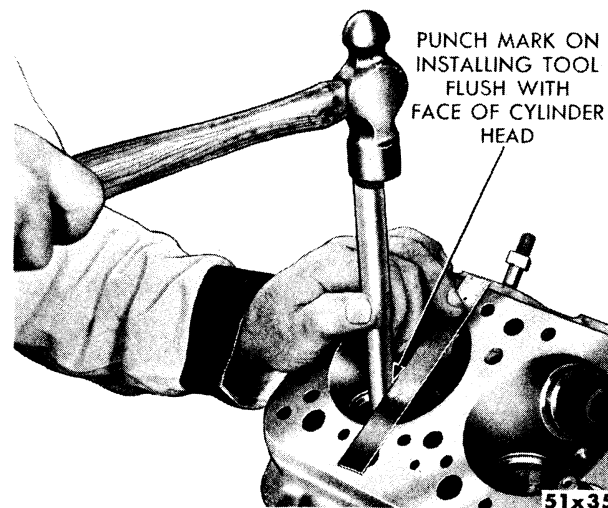

Fig. 142—Installing Intake Valve Guide
- (3) Place a steel scale across the combustion chamber dome, as shown in Figure 142. Drive the intake valve guides down until the punch mark on the side of Driving Tool C-3150 is flush with the face of the cylinder head.
- (4) Drive the exhaust valve guides down until the flat end of the valve guide is flush with the top of the valve guide boss.
- (5) After new valve guides have been installed, using Tool C-741, ream each guide from .374 to